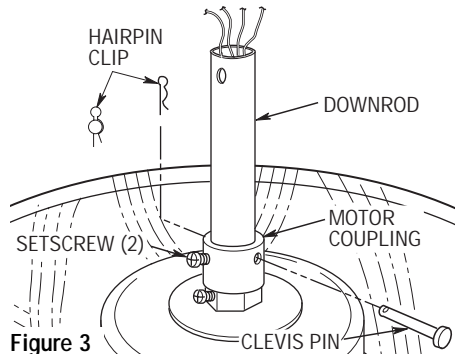

Figure 3
- 2. Unscrew the two upper setscrews (Figure 3) until they clear the inside of the motor coupling. Then separate, untwist and unkink the three 80" motor leads. Route the motor lead through the downrod. Align the clevis pin holes in the downrod with the holes in the motor coupling. Install the clevis pin and secure with the hairpin clip (Figure 3). The clevis pin must go through the holes in the motor coupling and the holes in the downrod. Be sure to push the straight leg of the hairpin clip through the hole near the end of the clevis pin until the curved portion of the hairpin clip snaps around the clevis pin. The hairpin clip must be properly installed to prevent the clevis pin from working loose. Pull up on the downrod to make sure the clevis pin is properly installed.
It is critical that the clevis pin in the motor coupling is properly installed and the setscrew securely tightened. Failure to verify that the pin and setscrew are properly installed (as shown in Figure 3) could result in the fan falling.
- 3. Tighten the setscrews (Figure 3) securely while pulling up on the downrod.